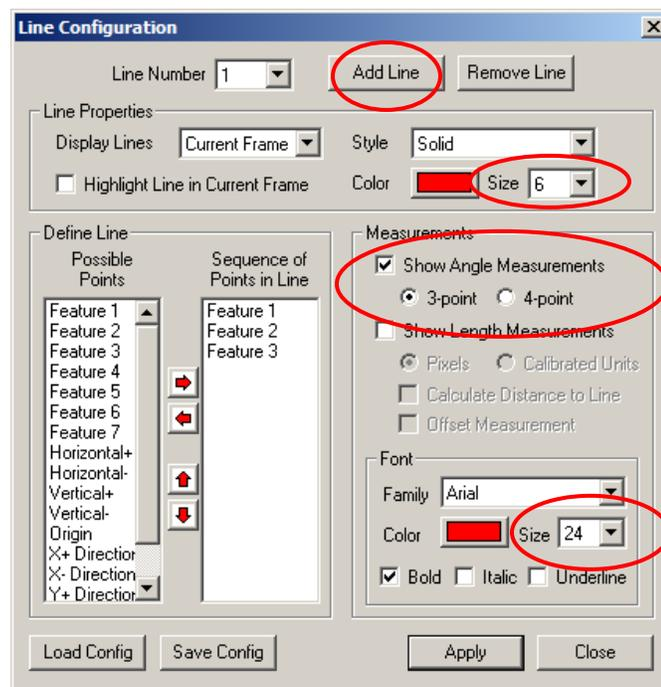

Figure 12. Line Configuration window
15. Click **Configure** in the Feature Lines section of the control panel. The Line Configuration window appears, as shown in Figure 12.